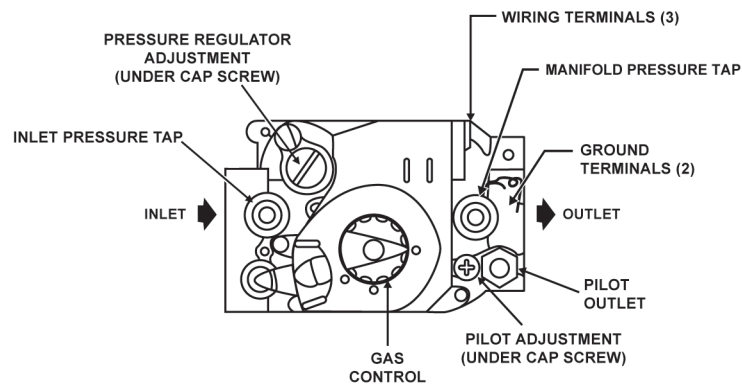

FIGURE 17. GAS CONTROL VALVE (NATURAL GAS & PROPANE)
3. Remove the 1/8" pipe plug from the inlet pressure tap on the gas control valve and install a suitable 1/8" hose barb fitting (field supplied) for the manometer tubing. See Figure 17 for the location of the inlet pressure tap on the gas control valve. Connect the manometer tube to the hose barb fitting.
The gas manifold pressure regulator is included in the combination gas control valve, Figure 17, and is set to operate on the gas specified on the water heater model and rating plate.
Small changes in the input rate may be made by adjusting the manifold pressure. Refer to Figure 17 for the location of the pressure regulator adjustment on the gas valve. Also refer to Table 4 for nominal manifold pressure. Under no circumstances should you exceed the maximum input rate for the water heater given in Table 2 on Page 6. When the manifold pressure has been adjusted to yield the correct input rate, proceed to step 5.